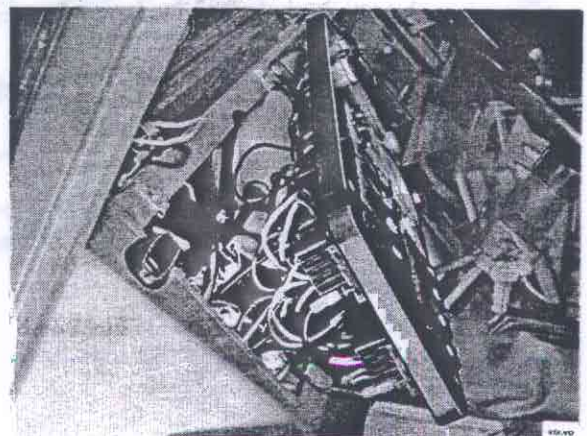

Fig. 52–15. Dashboard folded up
8. Remove the four retaining bolts and lift forward the master cylinder, see Fig. 52–16.